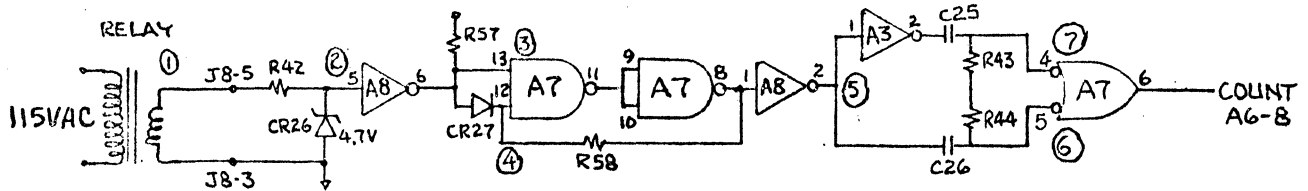

Figure 4-12. Ready (Pulse Generator)
Pulse Generator - Analysis of the pulse generator portion of the ready logic will use Figure 4-12.
Ac power input, (1) of Figure 4-12, comes from a transformer which reduces its amplitude to approximately 6 volts.